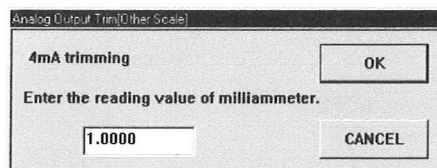

Fig.47
- ④ Begin with 1V (4mA) trim. A message box like the one shown in Fig. 47 appears. Key in the reading of the test instrument and Click on "OK".